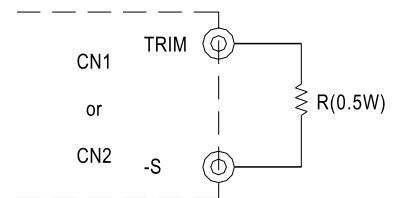

Fig. 3.2 Output voltage trimming
- (2) Connecting a resistor externally between TRIM and-S on CN1 or CN2 that is shown in Fig. 3.2.